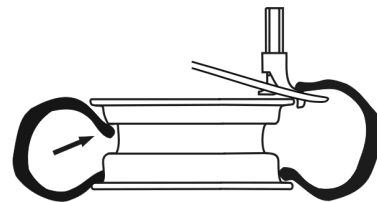

Fig. 19
- Pry the tyre edge on the front end of the mounting head(Fig. 19)